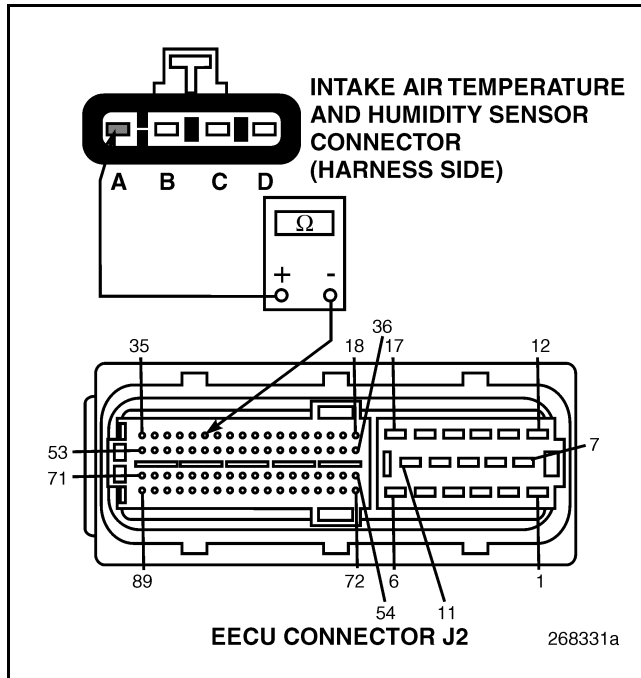

Figure 332
3. Check for continuity between the Intake Air Temperature and Humidity (IATH) Sensor harness connector pin A (reference voltage line) and EECU harness connector J2 pin 30 (see Figure 332).